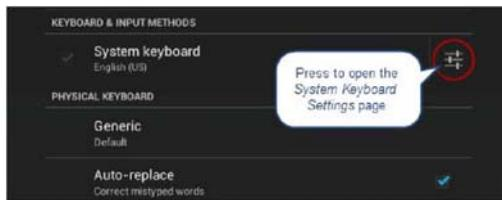

FIG. 88 Keyboard Options window
5. Press **Set up input methods** to open the Keyboard Options window (FIG. 88).